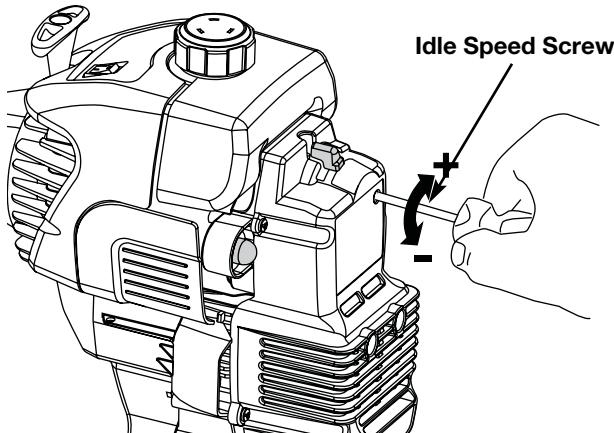

Fig. 29
The idle speed of the engine is adjustable through the air filter/muffler cover (Fig. 29).
- Release the throttle trigger and let the engine idle. If the engine stops, insert a small phillips screwdriver into the hole in the air filter/muffler cover (Fig. 29). Turn the idle speed screw in, **clockwise**, 1/8 of a turn at a time (as needed) until the engine idles smoothly.